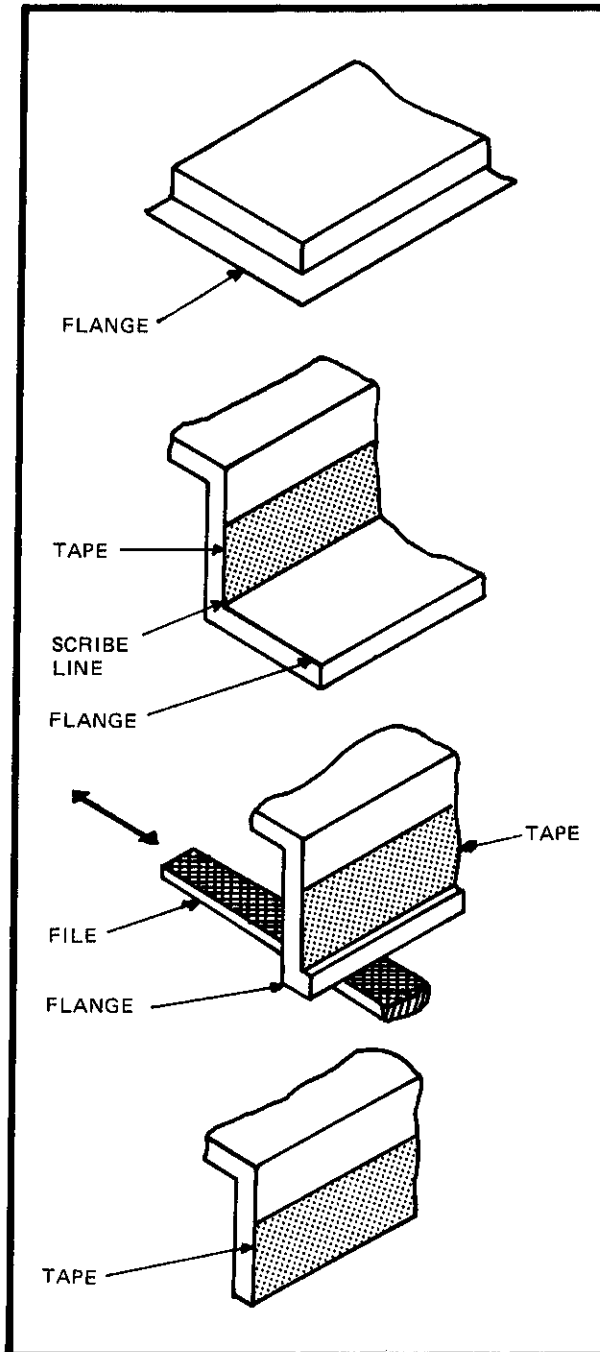

Figure 27
- ☐ In a situation where the scribe line falls in a right angle corner, such as the running board flange, tape the vertical surface at a right angle to the flange. Cut the flange off next to the tape. File off the remaining fiberglass level with the tape. (Refer to Figure 27)